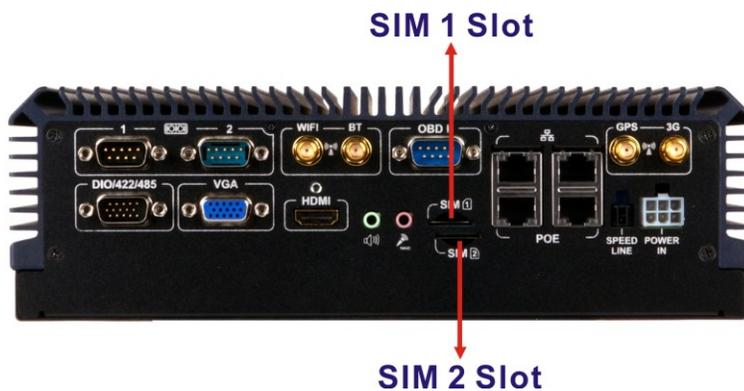

Figure 3-14: SIM Card Slot Locations
Step 2: Locate the SIM card slots on the rear panel (**Figure 3-14**).